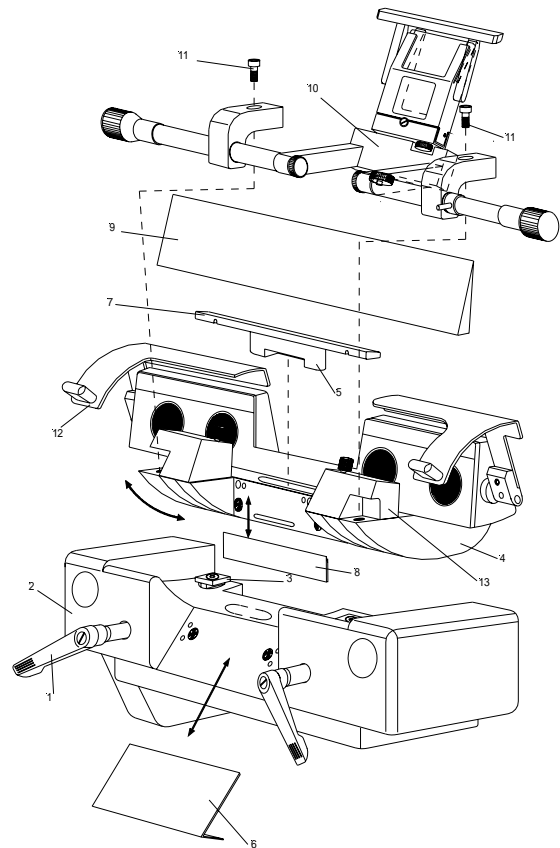

Bild 63a
- Loosen the fastening screws (fig. 63a.11) of the anti-roll guide (fig. 63a.10) from above.
- Remove the anti-roll guide (fig. 63a.10).
- Pull off the stands (fig. 63a.13) in an upward direction.
- Remove the wedge rail (fig. 63a.7).
Carefully keep the two stands (fig. 63a.13) as well as the wedge rail (fig. 63a.7). These parts will be needed again when modifying from disposable blade holder SE to standard knife carrier SM.